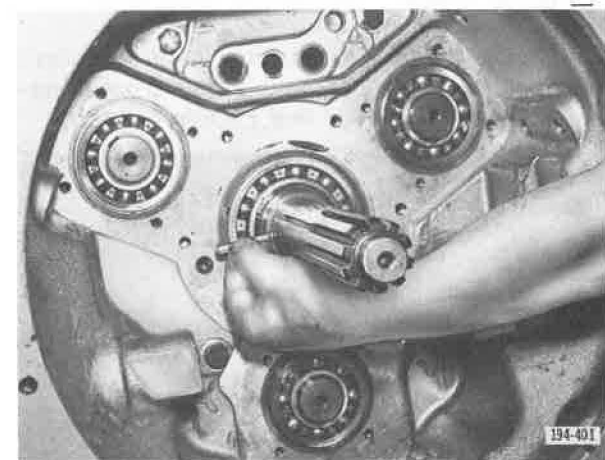

Figure 5-266. Removing Oil Pump Vane
14. Remove oil pump vane from main drive pinion. See Figure 5-266.